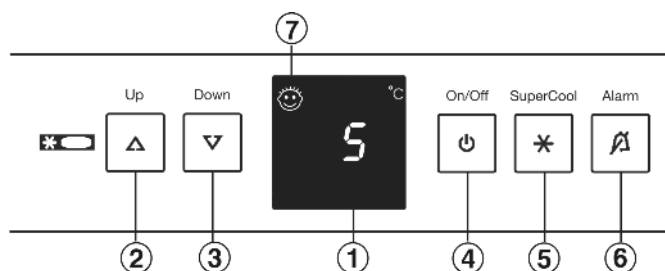

Fig. 2
- ▶ Press On/Off button *Fig. 2 (4)*.
- ▶ To activate the setting mode: press SuperCool button *Fig. 2 (5)* for about 5s.
- ▶ Using the Up setting button *Fig. 2 (2)* and Down setting button *Fig. 2 (3)*, select h .
- ▶ To confirm: briefly press the SuperCool button *Fig. 2 (5)*.
- ▶ To set the display brighter: press the Up setting button *Fig. 2 (2)*.
- ▶ To set the display darker: press the Down setting button *Fig. 2 (3)*.
- ▶ To deactivate the setting mode: press the On/Off button *Fig. 2 (4)*.